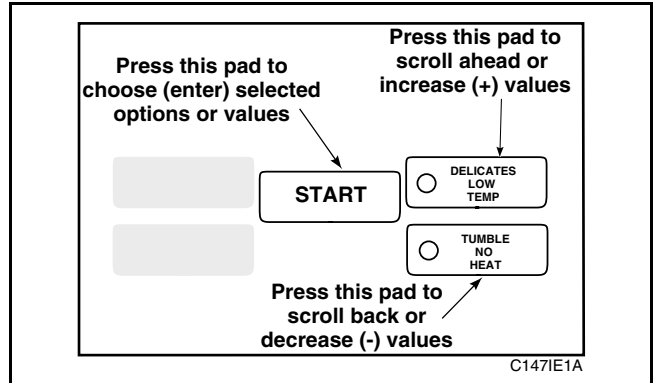

Figure 57
- Press the LOW TEMP (+) pad or the NO HEAT (-) pad to increase or decrease the current three-digit number to the desired three-digit number from Chart 5, *Figure 57*.